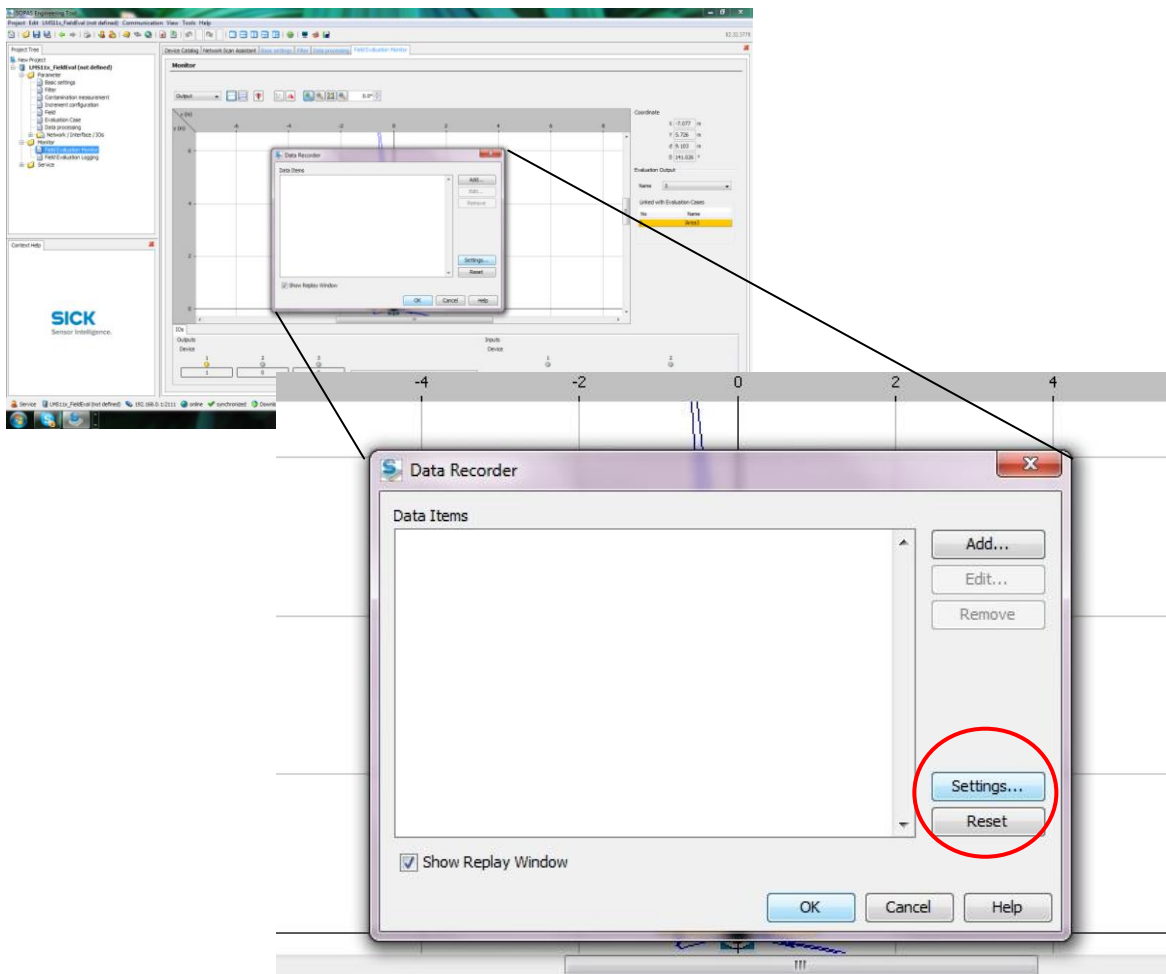
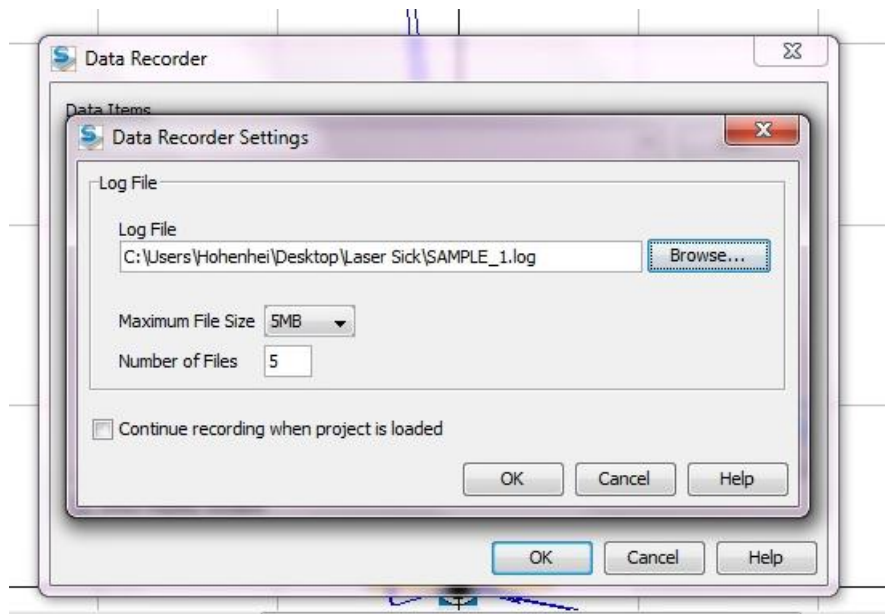

Fig. 11.
Fig. 12.
10. After clicking on “Configuration” a new dialog box pops up. Fig.11.
11. Clicking on “Settings...” on can set the path where the scanning is going to be store (and type the name) and the maximum size of the file.(See red circle at figure 11). In this case the name is “SAMPLE\_1.log” and the maximum size 5MB. Fig.12.